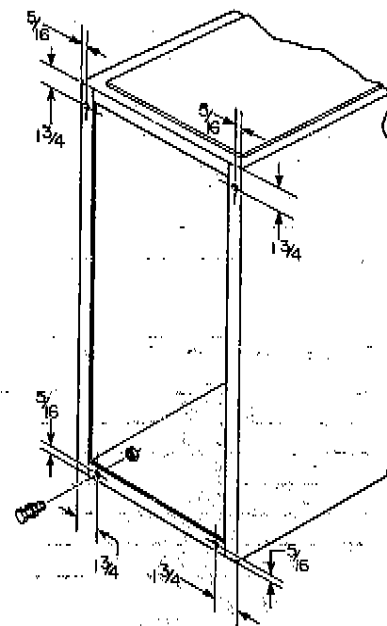

Fig. 6—Leveling Leg Installation
When the furnace is used with side inlet(s) and leveling legs are required, refer to Fig. 6, and install field-supplied, corrosion-resistant 5/16-in. machine bolts and nuts.
1. Lay furnace on its back. Locate and drill 5/16-in. diameter hole in each bottom corner of furnace as shown in Fig. 6.